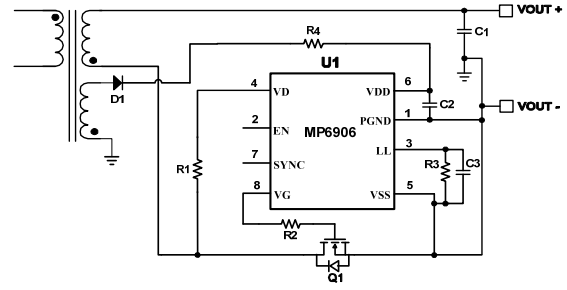
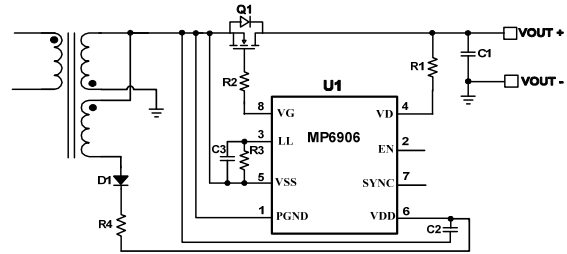

Figure 10: IC Power Derived from the Auxiliary Winding in Low-Side Rectification
Figure 11: IC Power Derived from the Auxiliary Winding in High-Side Rectification
If the output voltage is out of the V_{DD} operating range or high-side rectification is used, an auxiliary winding solution for the IC’s power supply is recommended (see Figure 10 and Figure 11). The auxiliary winding turn count (N_{au}) can be set using Equation (2):